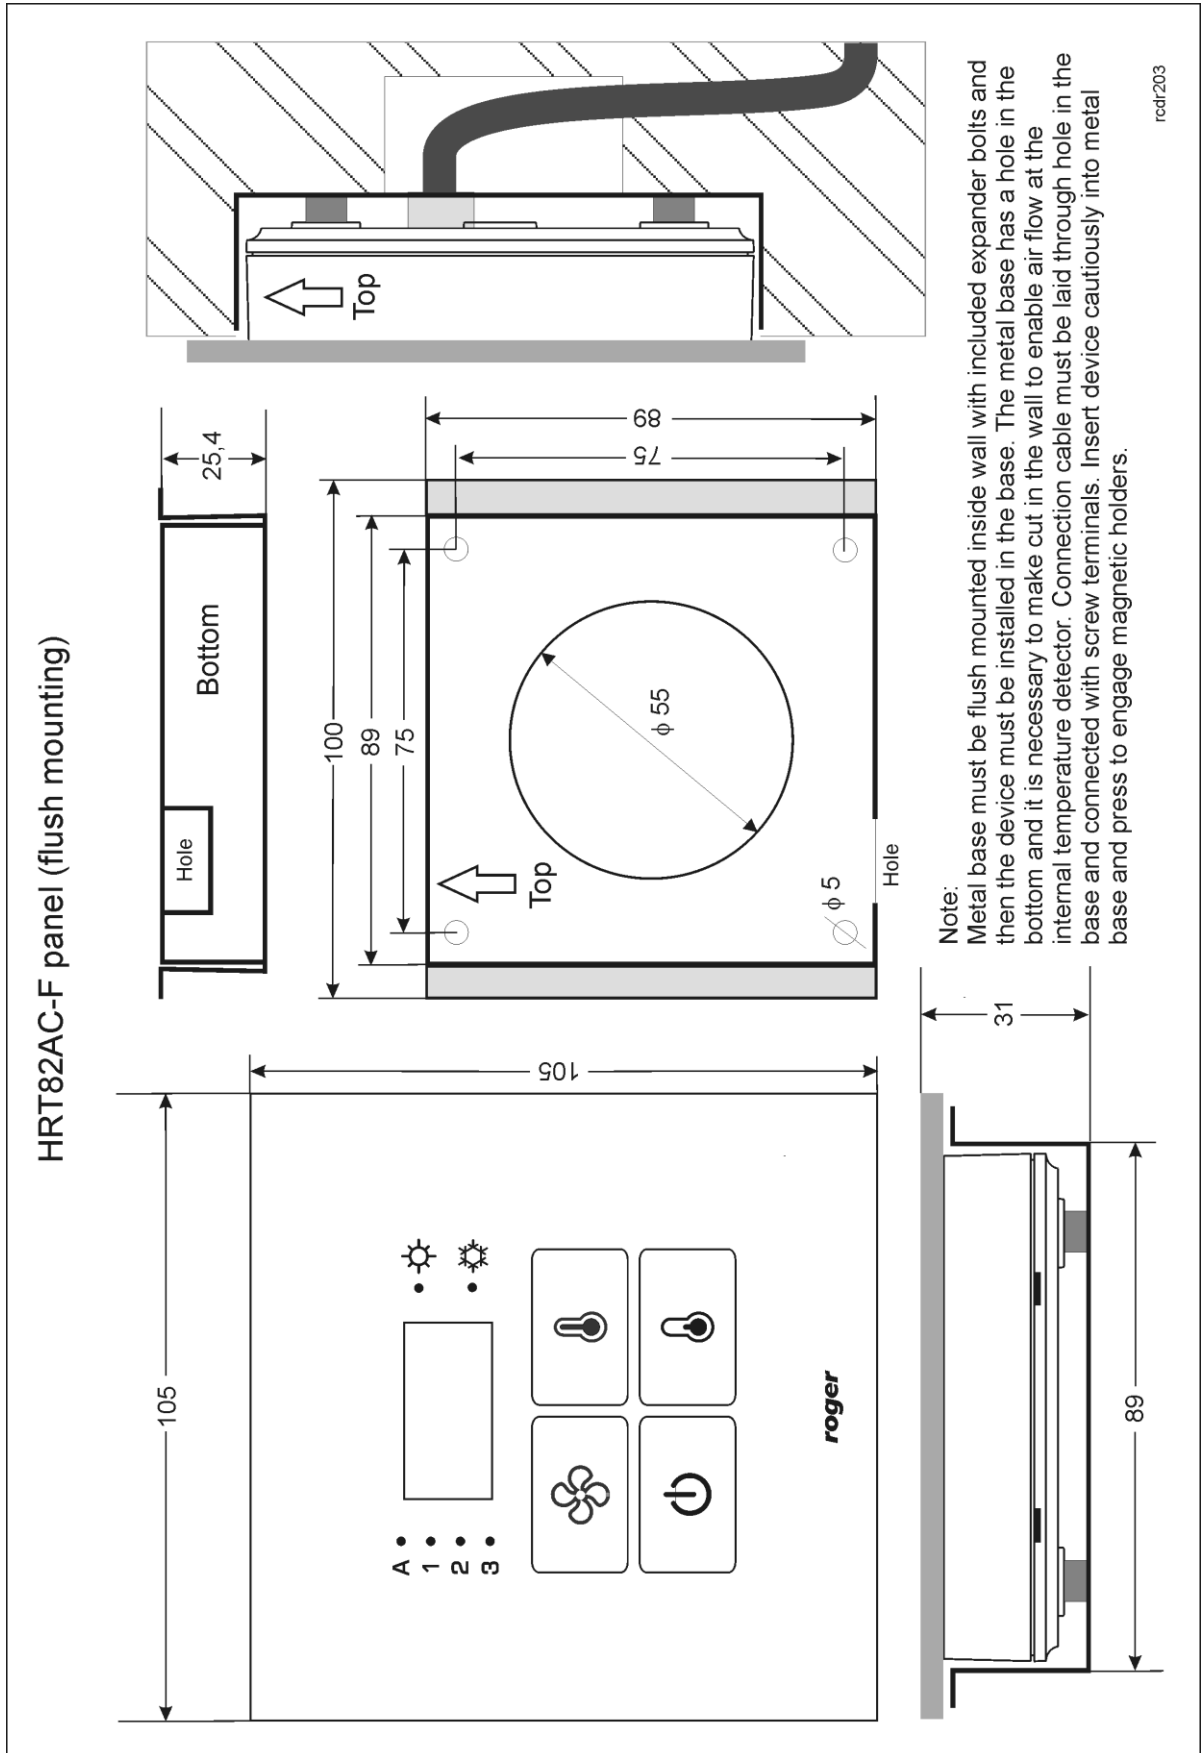

Fig.5 HRT82AC-F flush mounting
- In case of HRT82AC-F base it is necessary to make cut in the wall below temperature detector (hole in fig. 5) and under glass panel and additionally install the panel in a distance of 1-2mm from wall to ensure air circulation at the detector